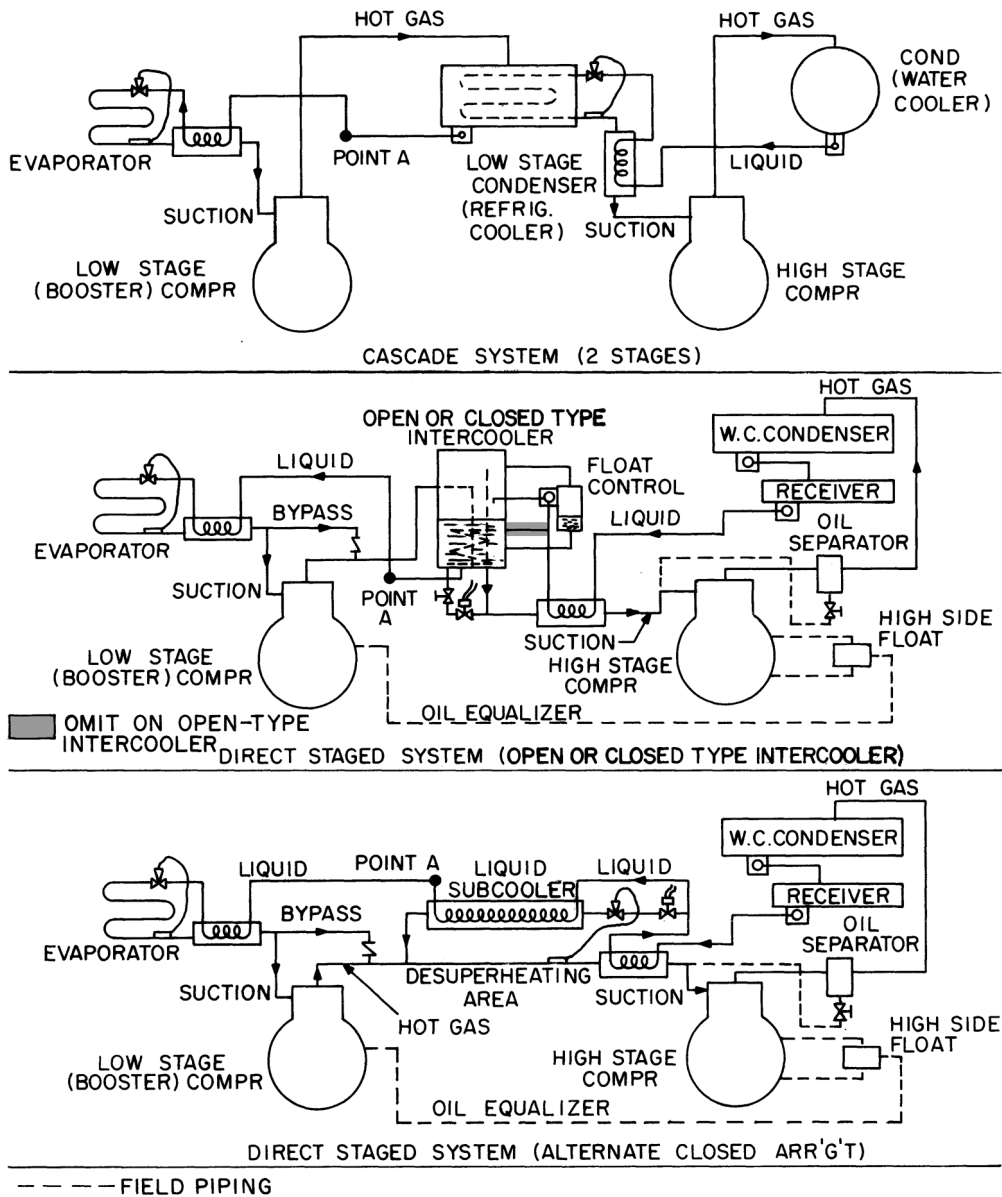

Fig. 18 — Flow Diagrams for Common Multistage Systems (Not to be used as Piping Diagrams)
2. The liquid refrigerant at Point A (Fig. 18) at saturation temperature corresponds to booster discharge pressure. This is often referred to as saturated intermediate temperature.
Multistage System Pointers — A staged system is essentially a combination of 2 or more simple refrigerant cycles. In combining 2 or more simple flow cycles to form a staged system for low temperature refrigeration, 2 basic types of combinations are common (Fig. 18).
Three common methods of gas desuperheating and liquid cooling for direct stage systems are illustrated in Fig. 18. In open-type systems, refrigerant liquid is cooled down to the saturation temperature corresponding to intermediate pressure. In closed-type systems, good intercooler design usually results in refrigerant liquid being cooled down to 10 to 20 degrees above saturation temperature corresponding to intermediate pressure.
In direct stage systems, however, oil may tend to accumulate in one of the stages and thus result in lack of lubrication in other machine. By use of oil transfer lines, equalization of oil level between crankcases can be achieved by manual operation at periodic intervals. Automatic control of proper oil return to both compressors is effected by use of a high stage discharge line oil separator, returning oil to high stage machine, and a high side float, connected to high stage machine crankcase, which continually drains excess oil from this crankcase down to the next lower stage compressor (Fig. 18).